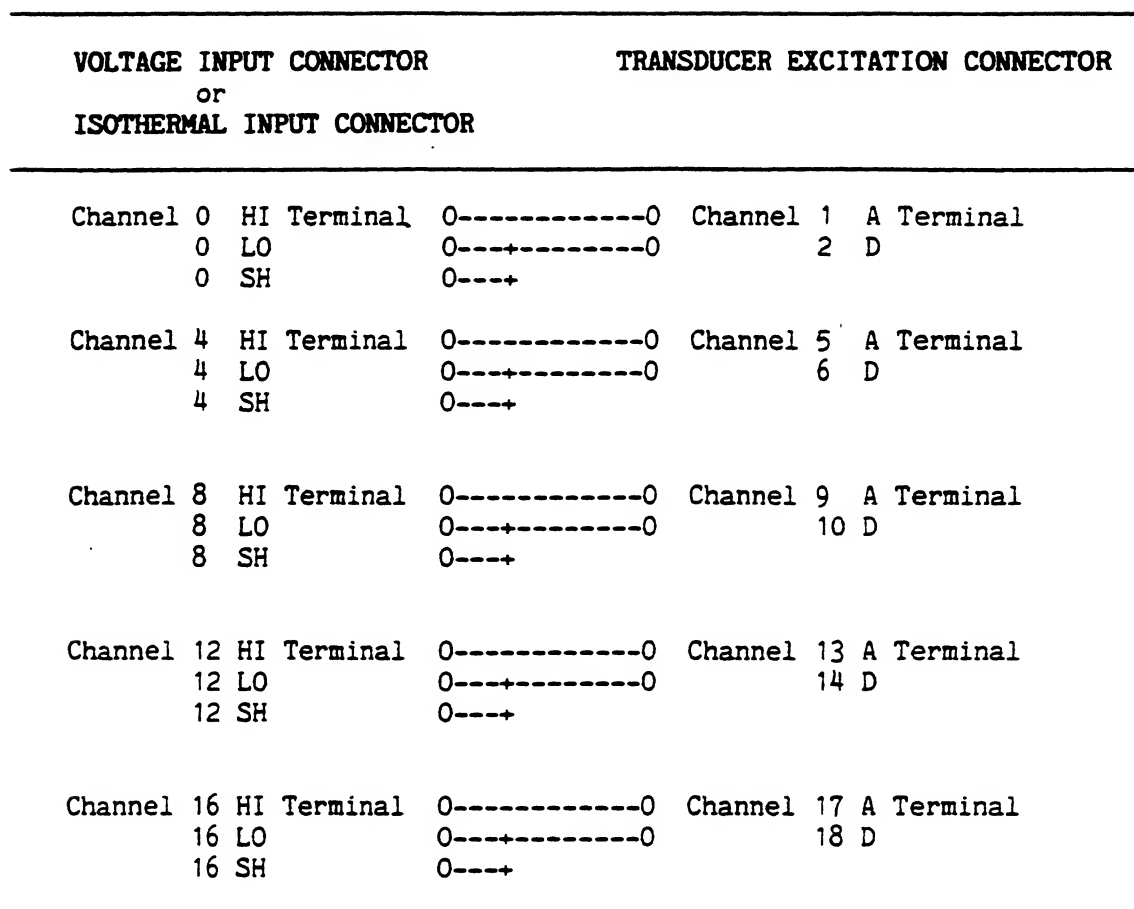

Figure 164-2. Current Excitation Test Wiring Diagram 1
6. Wire the Transducer Excitation Connector to an Isothermal Input or Voltage Input Connector according to the diagram in Figure 164-2.